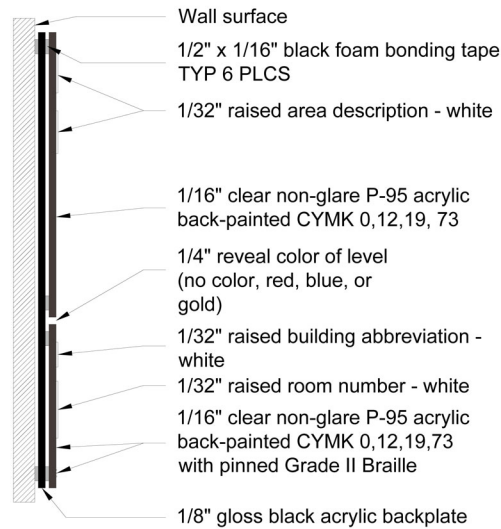

Figure 11.10
- 11.10. UMD A4 sign cross section shall comply with figure 11.10.
- 14.10. UMD B3 sign cross section shall comply with figure 11.10.